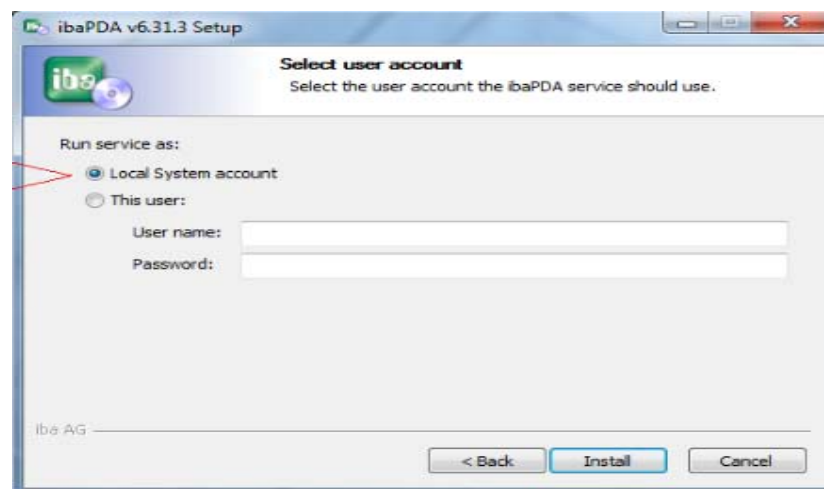

Figure 2: Selection of User Account
- In the select user account, select the Local System account as shown in figure 2. Click Install.